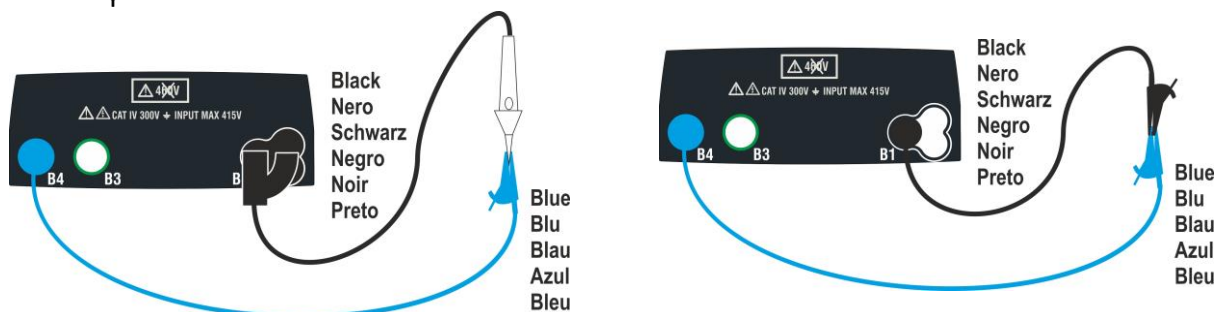

Fig. 10: Compensation of single cables and remote lead resistance
- Connect the alligator clips and/or test leads and/or remote probe to the conductor to be tested as in in Fig. 10.